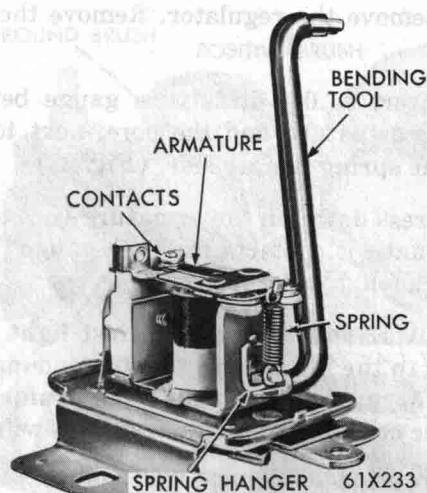

Fig. 27—Adjusting Spring Tension
(2) Adjust voltage setting as necessary by bending the regulator lower spring hanger **down** to **increase** voltage setting, **up** to **decrease** voltage setting. Use an insulated tool to bend the spring hanger (Fig. 27). The regulator must be installed, correctly connected, and retested after each adjustment of the lower spring hanger.